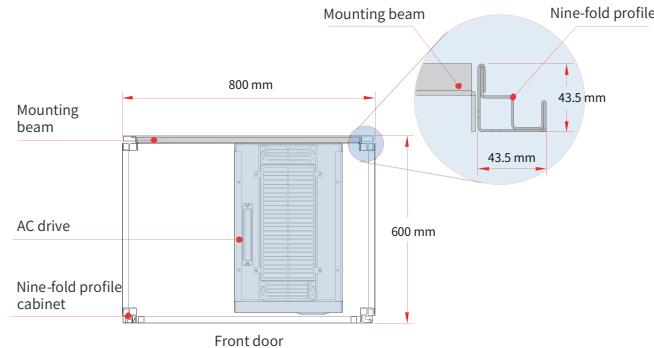

Figure 3-15 Top view of a 200–400 kW cabinet
1. The nine-fold profile cabinet (PS cabinet) is recommended. Figure 3-15 shows the enlarged view of the nine-fold profile.